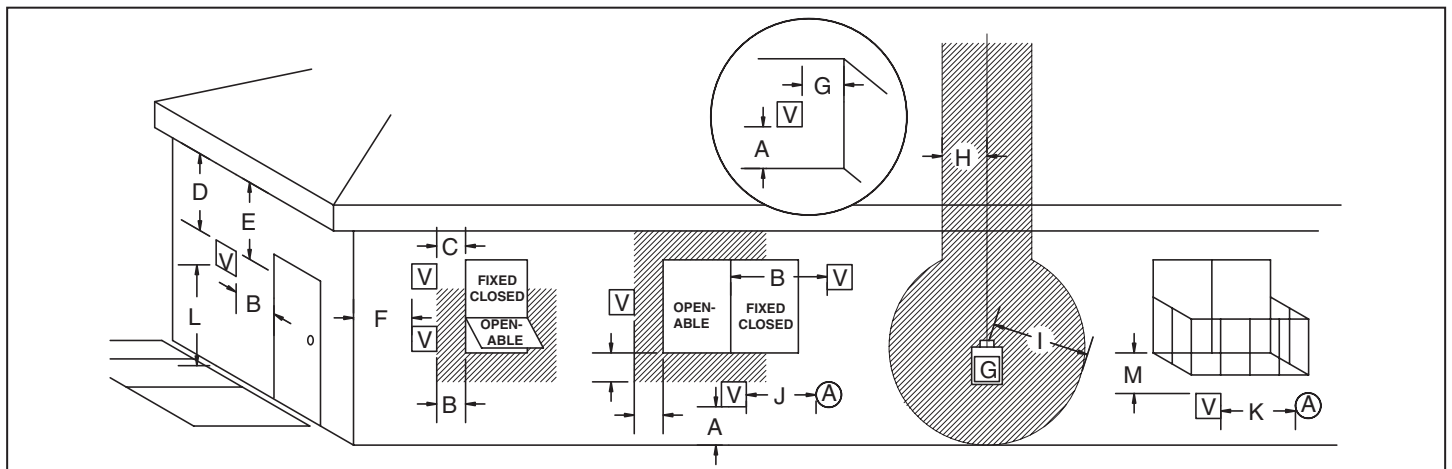

Figure 42: Clearances.
**NOTE: MINIMUM CLEARANCES TO THE VENT TERMINAL MUST BE MAINTAINED** (See Figure 41) & (Figure 42)